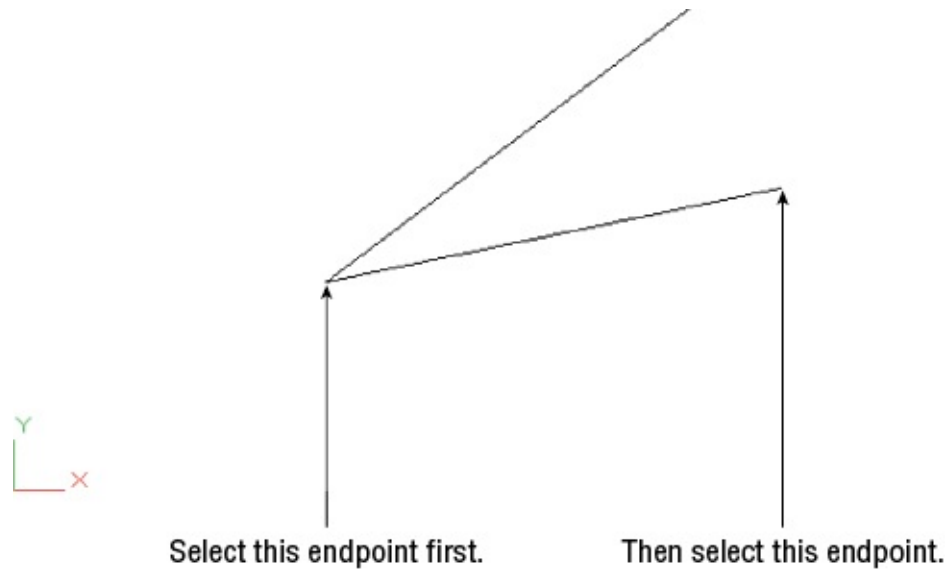

FIGURE 14.27 Select these endpoints using the Angle Of Line Defined By Two Points option.
2. With osnaps turned on, select the endpoints of the lower line, starting with the bottom endpoint, as shown in Figure 14.27.